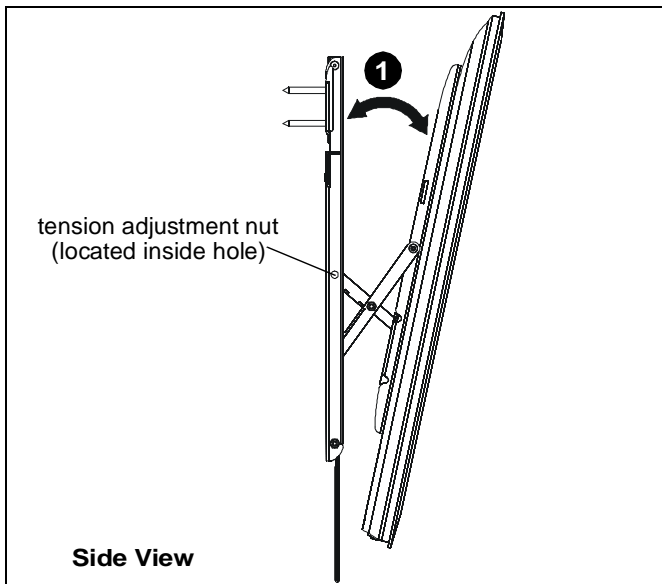

Figure 6
- Display may be tilted forward by pulling forward on the top of the display as desired. (See Figure 6)
- Tilt tension is adjustable by using 3/16" hex key (Z) in the tension adjustment nut. (See Figure 6)